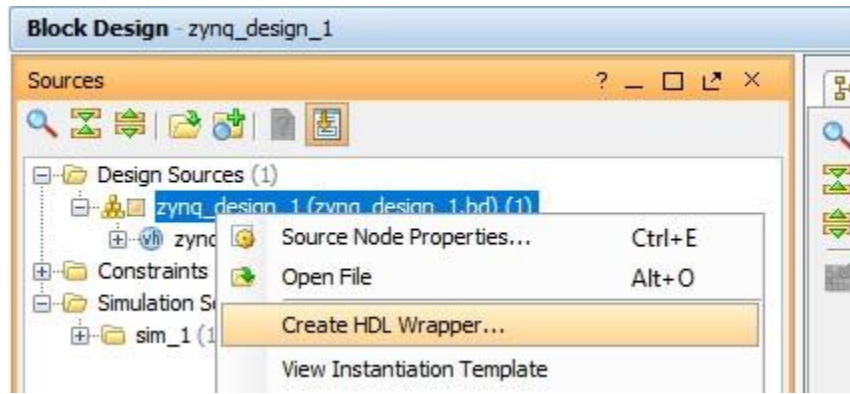

Figure 20: Creating the HDL wrapper.
3. In the Sources window, select the top-level subsystem source, and select **Create HDL Wrapper** to create an example top-level HDL file (Figure 20)). Select **Let Vivado manage wrapper and autoupdate** and click **OK**.